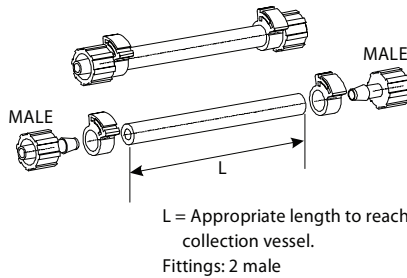

Figure 12: Set-up of permeate tubing, fittings and clamps.
1. Cut silicone (translucent) tubing and install fittings as shown in figure 12.